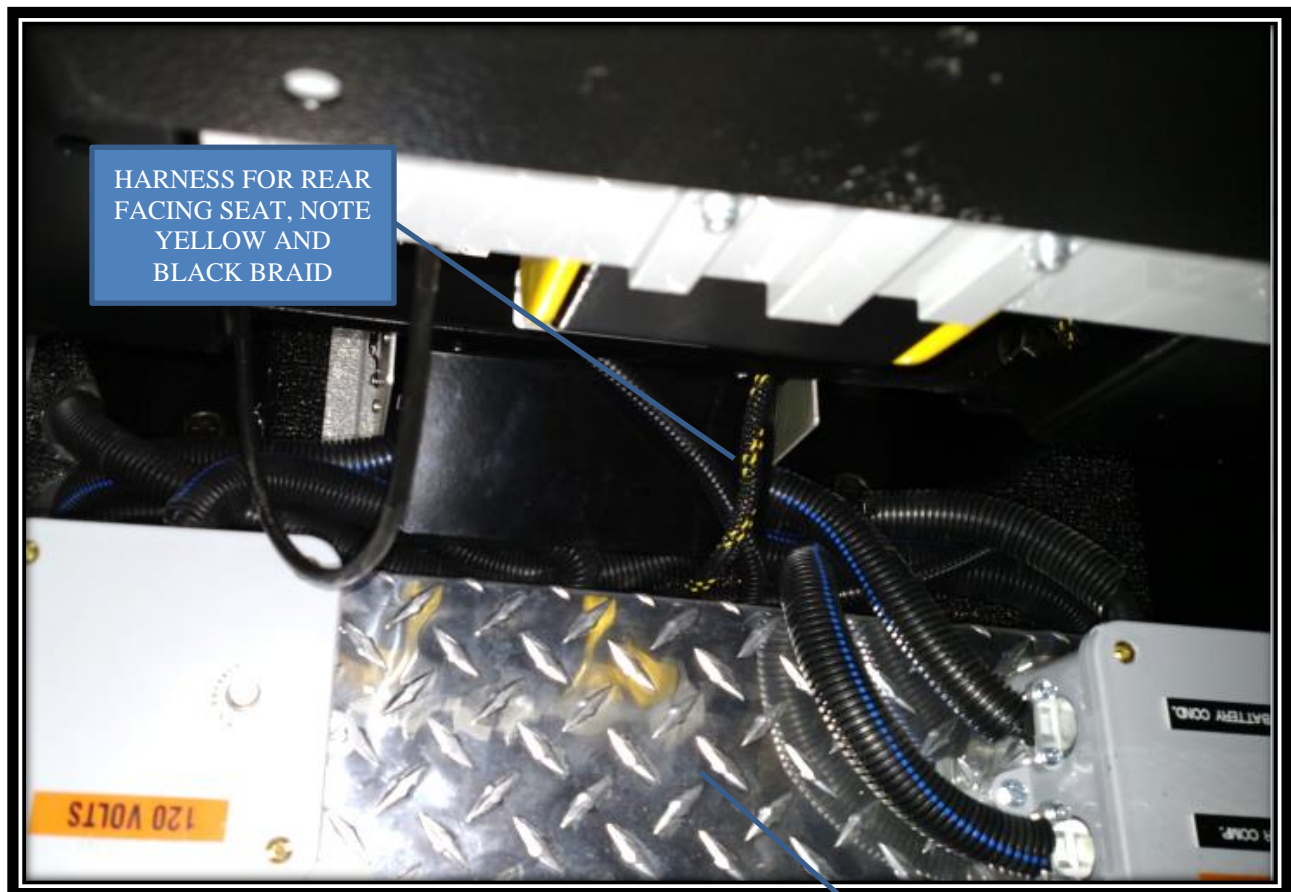

FIG. 3.1
2. May need to trace harness in order to find connector. Refer to FIG. 3.1.
4. May have to remove AC hose cover to gain access to extra harness Refer to FIG. 3.1.